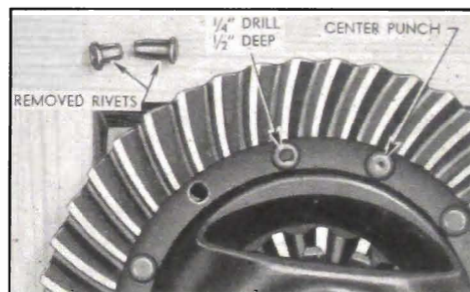

Fig. 4-11. Ring Gear Rivet Removal
1. Center punch all rivets from ring gear side. See Fig. 4-11.